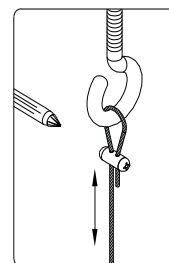

Figure 11
- 7) To adjust fixture height- locate screws at end of cable. (See Fig. 11)